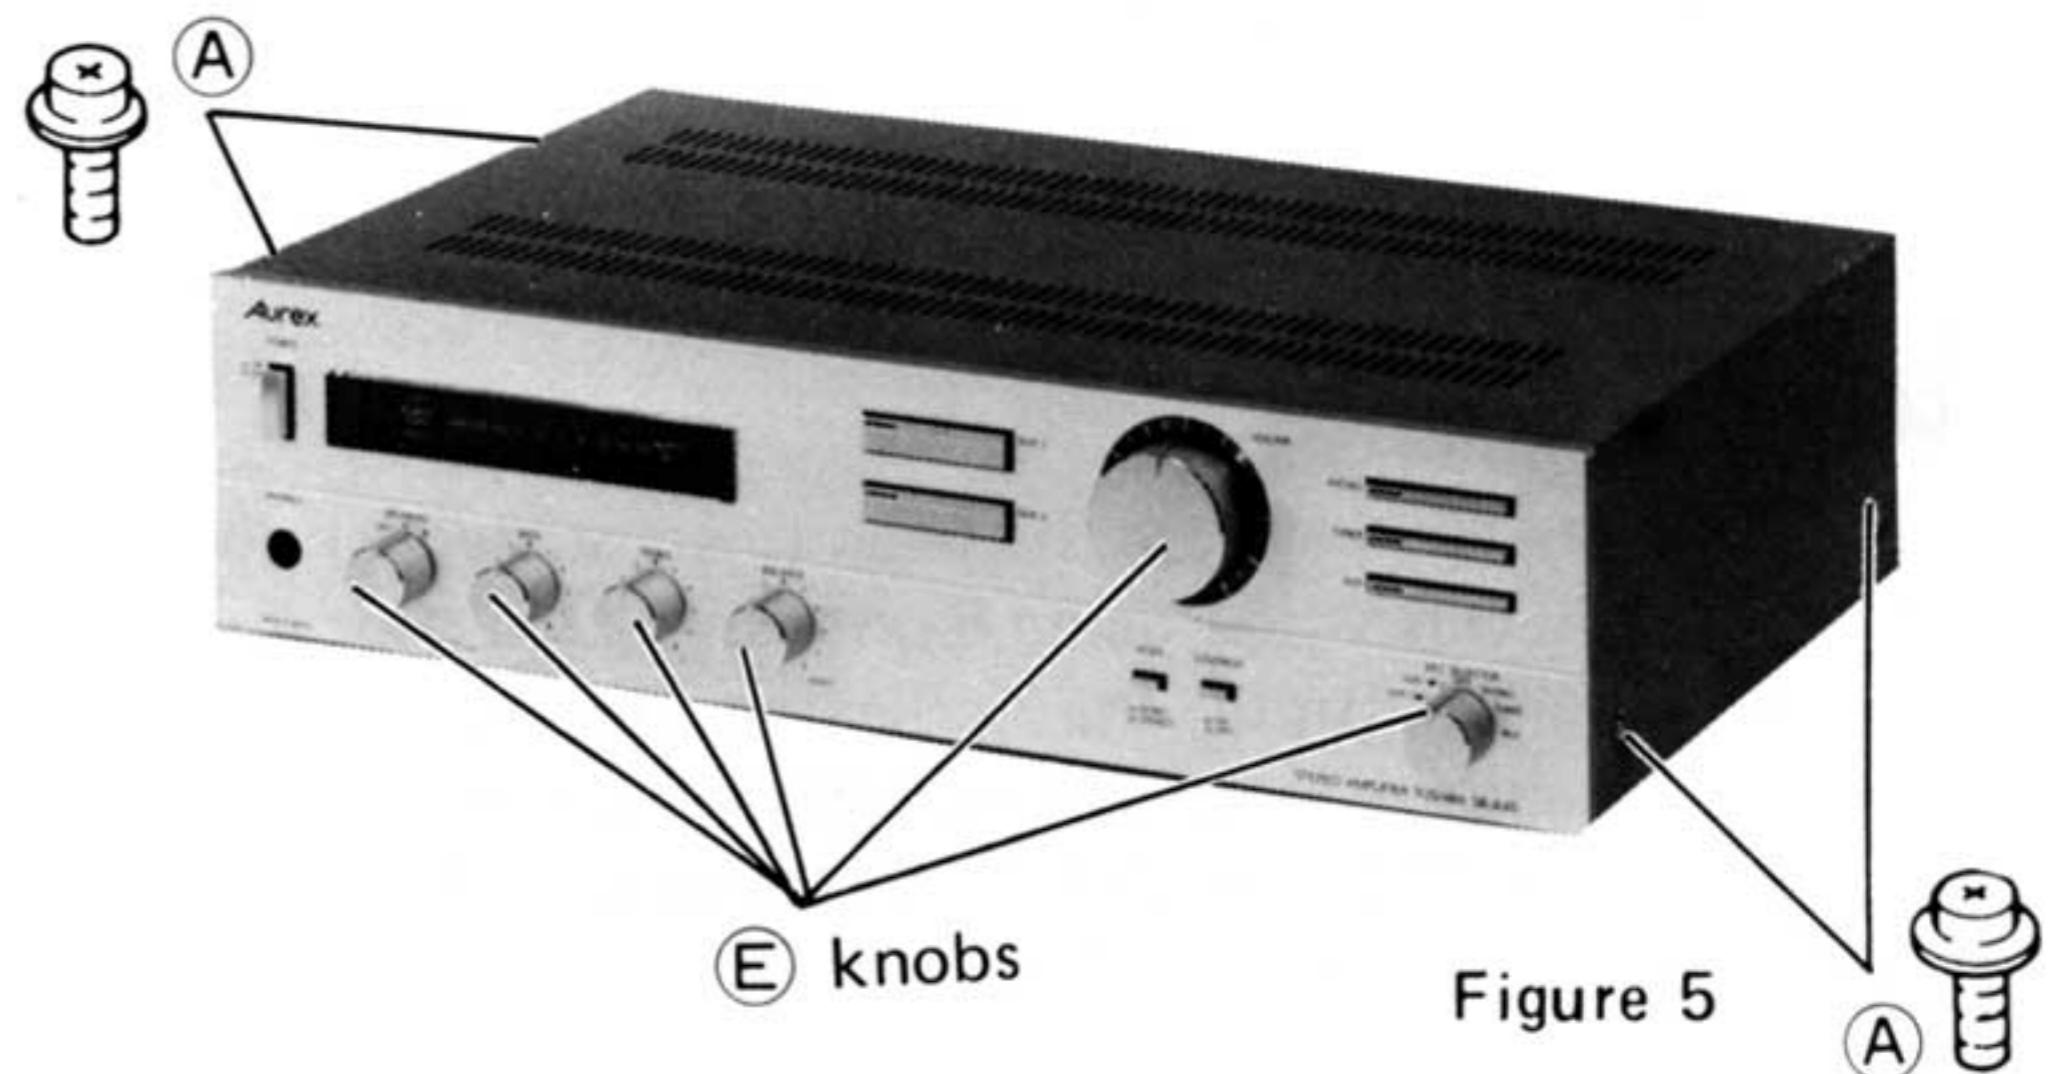

Figure 5
- 1 Remove four screws **A** ($3\phi \times 6\text{mm}$). See Figure 5.
- 1 Remove the Top Cover. See Figure 5 and 6.
- 2 Remove six knobs **E**. See Figure 5.